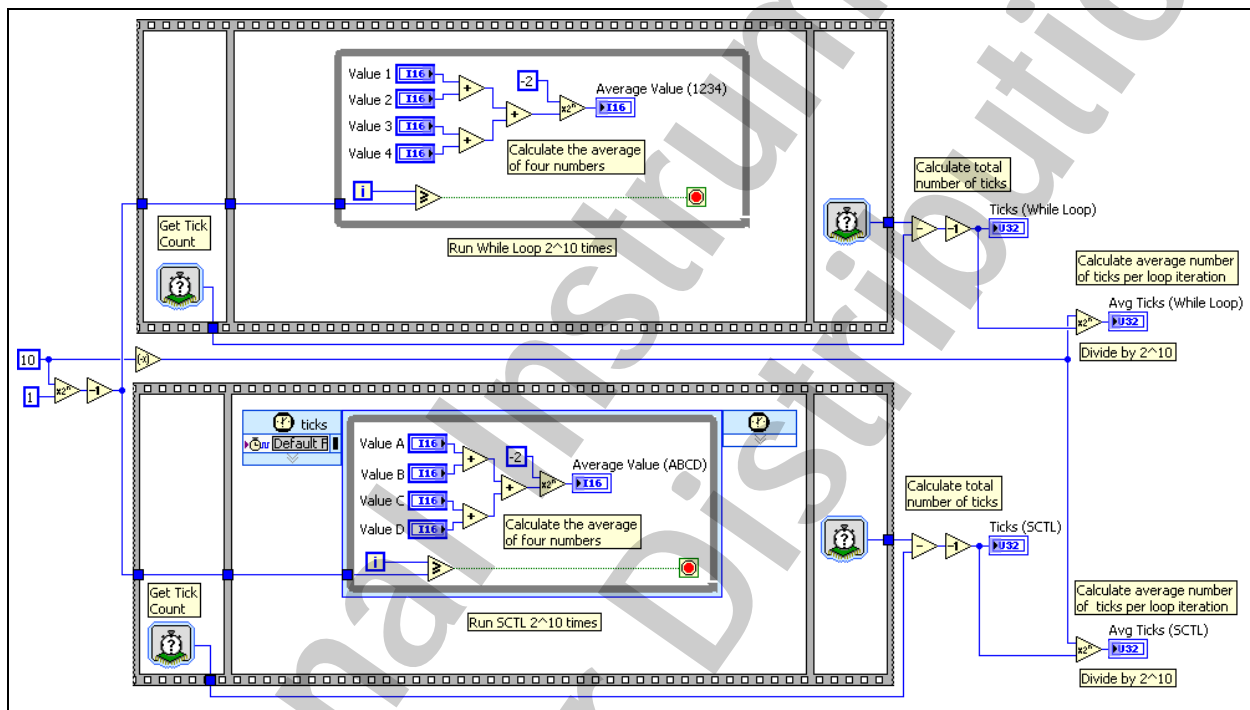

Figure 7-1. While Loop SCTL Benchmarking VI Block Diagram
5. Modify the block diagram to benchmark a single-cycle Timed Loop, as shown in Figure 7-1, using the following item:
- Wire the loop iteration terminal and loop condition terminal as shown in Figure 7-1.